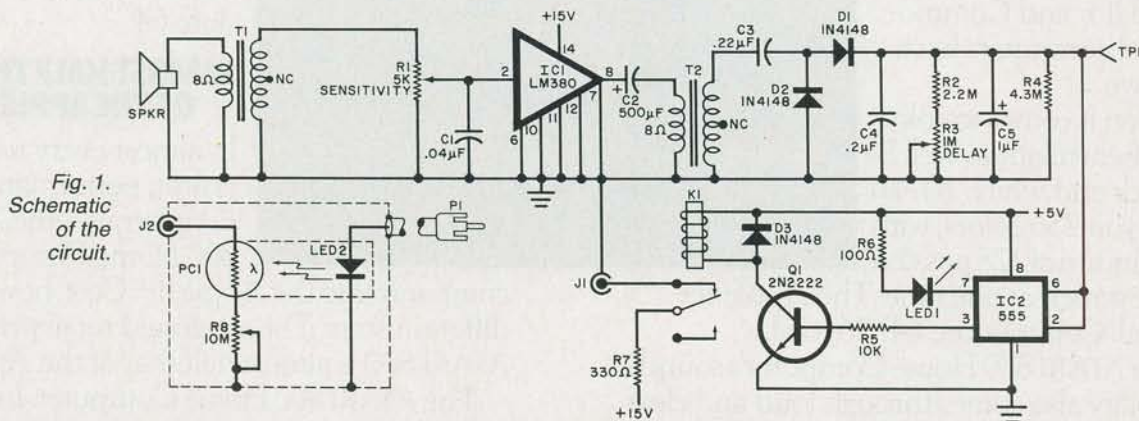

Fig. 1. Schematic of the circuit.
**Circuit Operation.** As shown in Fig. 1, the external noise is picked